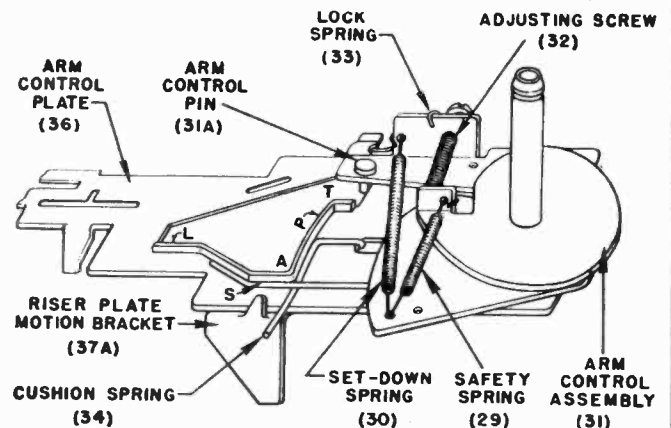

FIGURE 2.
(See Figures 2, 6, and 7.)
While a record is playing and as the pickup arm moves toward the center of the record, the arm control pin (31A) on the arm control assembly (31) moves along the portion of the arm control track (36B) as indicated at "P", figure 2. As the record reaches the pickup or trip point, the pin reaches point "T" on the track. As it moves into the recessed position in which it is shown in the illustration, it permits the trip spring (35) to pull the arm control plate (36) forward towards the centerpost (27). As the arm control plate is drawn forward, the stop tab (36A) on the arm control plate (36) is withdrawn from behind the reject catch (62) on the eccentric cam (61). The cam, which no longer is held in place by the stop tab (36A), is pulled over by the eccentric cam spring (44) until the rubber tire makes contact with the knurled roller (53) on the turntable shaft (28A). This knurled roller, which rotates with the turntable shaft, rotates the eccentric cam. In turn, this forces the riser plate assembly (37) back along its guide rods (51A) away from the centerpost (27). As soon as the riser plate begins to move, the push-off cam and shaft assembly (42) rides along the inclined track (37C) of the riser plate (37). This action causes the push-off cam and shaft assembly (42) to be drawn downward; as a result the pickup arm lift (19) presses down on the arm lift bearing pin (14) causing the pickup arm to be raised clear of the record. Then the riser plate tab (37B) contacts and moves the arm control assembly (31) which, since it is coupled to the pickup arm support assembly (22), carries the pickup arm away from the centerpost and clear of the edge of the turntable. As the riser plate (37) continues to travel further along the guide rods (51A), the riser plate motion bracket (37A) contacts and rotates the push-off cam and shaft assembly (42); as a result, the push-off arm (5), which is coupled to the push-off cam and shaft assembly (42) causes the push plate (7C) to drop a record to the turntable.
During the early part of the change cycle, the arm control plate (36) has traveled (in a direction away from the centerpost) until the size change stop (36C) reaches the cam (42B) Figure 2).
(c) With the changer out of cycle, manually move the arm control assembly (31) outwards as far as it moves freely. In this position, the arm control pin (31A) will be located as indicated at "A" in figure 2.